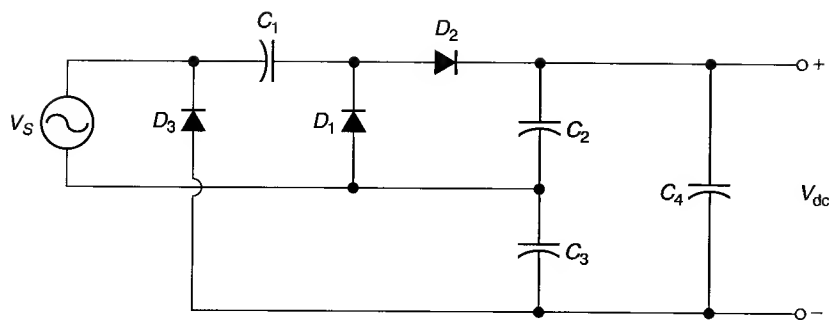

FIGURE 4.42
- 28.** The circuit shown in Figure 4.42 has a 20 V_{pk} input signal. Determine the values of V_{C1} , V_{C2} , V_{C3} , and V_{C4} for the circuit. Assume that the diodes are ideal components.
- 29.** The circuit shown in Figure 4.42 has a 15 V_{ac} input signal. Determine the values of V_{C1} , V_{C2} , V_{C3} , and V_{C4} for the circuit. Assume that the diodes are ideal components.